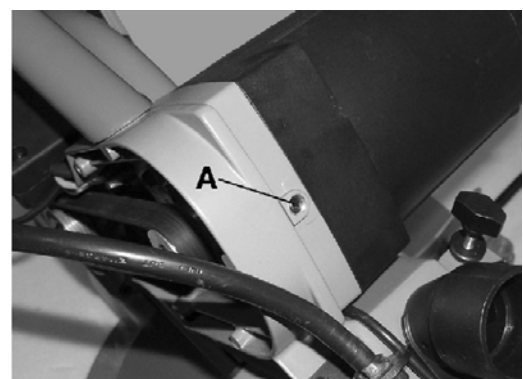

Fig. 20: Tension screw for V-belt
Step 5: Tension or loosen the V-belt tensioning screw (Pos. A, Fig. 20). The correct tension is when the belt can be pressed in approx. 1/2". Check the functioning of the spring tension pulley.